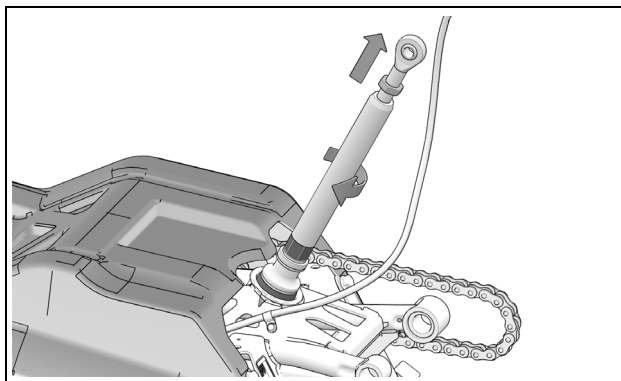

Figure 6
- Loosen the rod end's jam nut. Adjust the length of rod end by turning the strut rod using a 25 mm wrench. See Figure 6.